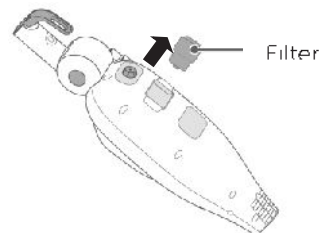

Fig. 13
2. To remove the filter, simply pull the filter unit from the rear of the body and replace with a new unit (fig. 13).